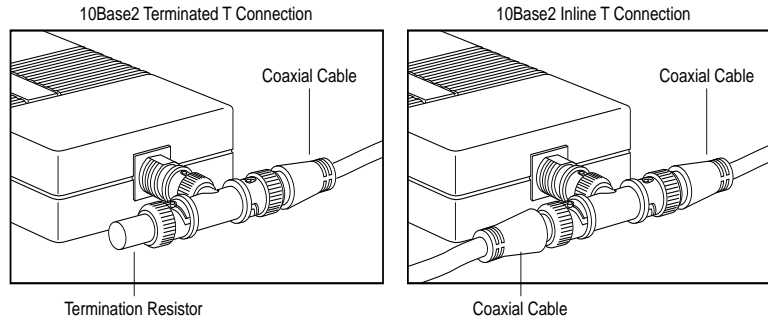

Fig. 2.24 Connecting to a single BNC Connector
- a. If the transceiver box has a single male BNC connector, either plug it into an existing Ethernet drop or use a “T” connector (fig. 2.24). Follow the directions included with the transceiver.
Note: Make sure to place a terminator in the open connector if this is an end node on the network (fig. 2.24).